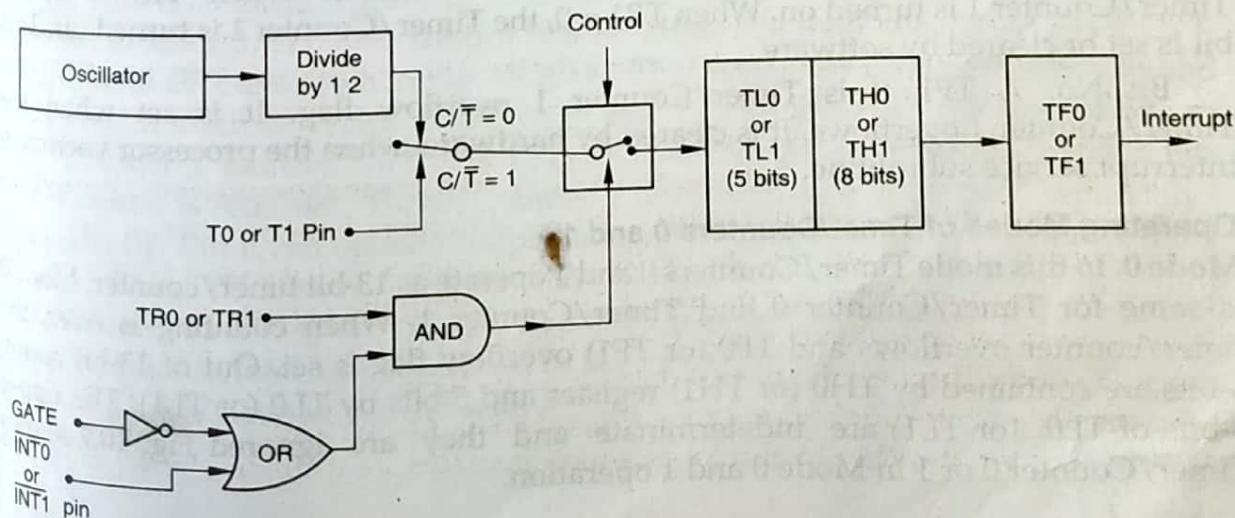

Fig. 10.7 Timmer/Counter 0 and 1 in Mode 0 and 1 Operation
GATE = 1, Timer/Counter X is enabled, only if  $\overline{\text{INTX}}$  pin is high and TRX is set. X = 0 or 1, see Fig. 10.7.
GATE = 0, Timer/Counter X is enabled whenever TRX is set. X = 0 or 1, see Fig. 10.7. Figure 10.7 shows Timer/Counter 0 and 1 in Mode 0 and 1 operation. Inverted GATE and  $\overline{\text{INT}0}$ (or  $\overline{\text{INT}1}$ ) are connected to an OR gate. If GATE is 0, the output of the OR gate is 1 and hence, it is immaterial whether  $\overline{\text{INT}0}$ (or  $\overline{\text{INT}1}$ ) is 0 or 1. If GATE = 1,  $\overline{\text{INT}0}$ (or  $\overline{\text{INT}1}$ ) must be 1 to get 1 output from the OR gate. To enable Timer/Counter 0 or 1, the output of the OR gate as well as TR0 (or TR1) should be high. The SFR TCON controls the operation of Timer/Counter 0 and Timer/Counter 1. Its various bits are shown in Fig. 10.8.
**Mode 0.** In this mode Timer/Counters 0 and 1 operate as 13-bit timer/counter. Mode 0 is same for Timer/Counter 0 and Timer/Counter 1. When counting is over, the timer/counter overflows and TF0 (or TF1) overflow flag is set. Out of 13-bit count, 8-bits are contained by TH0 (or TH1) register and 5 bits by TL0 (or TL1). The upper 3-bits of TL0 (or TL1) are indeterminate and they are ignored. Fig. 10.7 shows Timer/Counter 0 or 1 in Mode 0 and 1 operation.
**Mode 1.** This mode is same for Timer/Counter 0 as well as Timer/Counter 1. In Mode 1 Timer/Counter 0 and 1 operate as 16-bit timer/counter. When counting is over, the timer/counter overflows and sets TF0 or TF1 overflow flag. Figure 10.7 shows the block diagram for Model 1 (or Mode 0) for Timer/Counter 0 or 1. The register of the timer/counter is incremented every machine cycle. Suppose, initial value in the register is 0000. This value will be incremented every machine cycle and the value will finally reach FFFF. When this value is further incremented, the value will change from FFFF to 0000 and there will be overflow from the timer/counter. The initial value of the timer/counter's register can be programmed to any value by software. Suppose, a programmer keeps its initial value EF96. Now, counting will be done from EF97 to FFFF. Finally when FFFF will be incremented, there will be overflow.